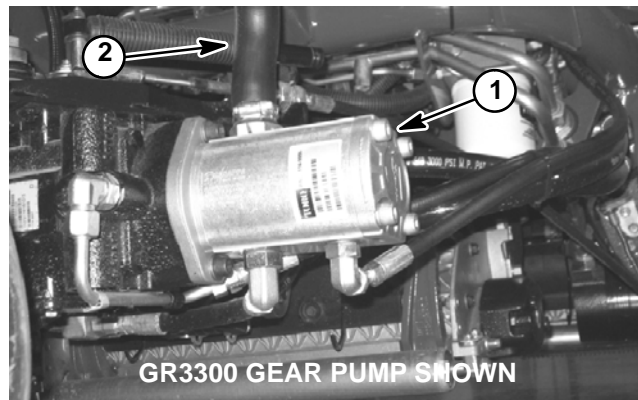
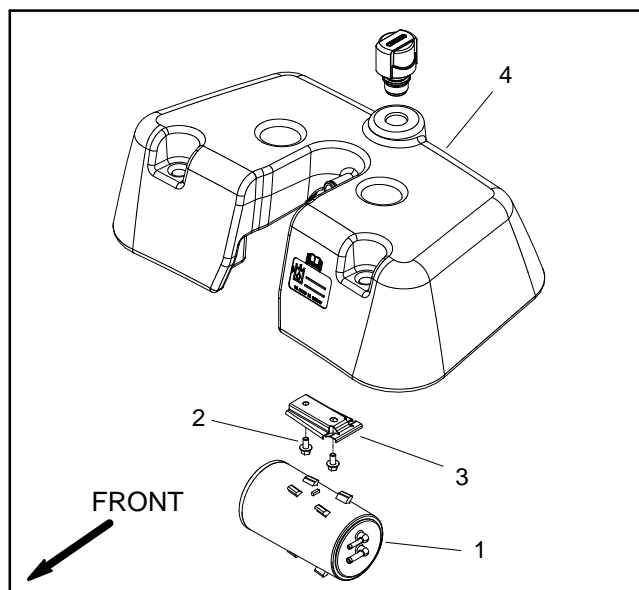

Figure 82
Figure 83
2. Place a clean container, large enough to collect two (2) gallons (7.6 liters), under the pump assembly to collect hydraulic oil.
3. Clamp pump inlet hose to control drainage from reservoir. Remove pump inlet hose from gear pump. Release clamp from hose and drain about two (2) gallons (7.6 liters) of oil from the hydraulic reservoir (Fig. 82).
5. Remove four (4) cap screws (item 6), flat washers (item 7), neoprene washers (item 8) and spacers (item 9) that secure leak detector tank to hydraulic reservoir.
6. Thoroughly clean junction of overflow hose (item 4) and leak detector tank barb. Loosen hose clamp (item 3) and disconnect overflow hose from tank barb.
7. Lift leak detector tank slightly and clean junction of valve hose (item 20) at solenoid valve fitting (item 21). Loosen hose clamp (item 19) and disconnect valve hose at solenoid valve fitting.
**NOTE:** On Greensmaster 3300 machines with serial number above 312000000, the fuel system carbon canister is attached to the leak detector tank (Fig. 83). See Fuel System Carbon Canister (Serial Number Above 312000000) in the Service and Repairs section of Chapter 3 - Gasoline for information on disconnecting the canister.
9. If necessary, remove valve hose (item 20), hydraulic fitting (item 18) and breather assembly from leak detector tank. Discard all removed O-rings.
**NOTE:** If solenoid valve (item 16) removal is necessary, see Leak Detector Solenoid Valve Assembly in this section.